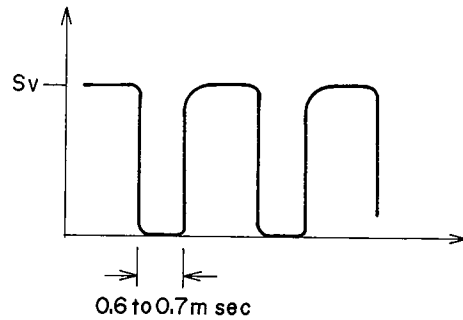

Fig. 40
- 3) Adjust VR3 until the oscilloscope waveform in Fig. 40 is obtained.
- 4) Revolve the platter once and check that the pulse wave only enters the places where there are holes. Next check that the waveform in Fig. 40 appears at each hole. If the pulse wave is entering places other than the holes, re-adjustment values is less sensitive than the allowance, stop reflection.